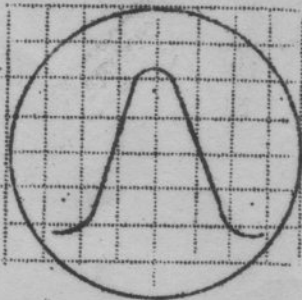
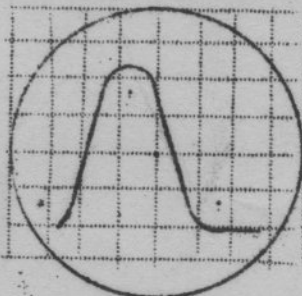
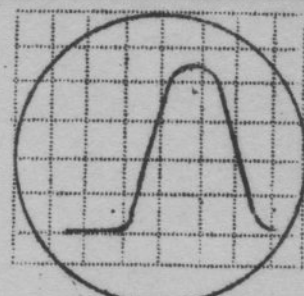
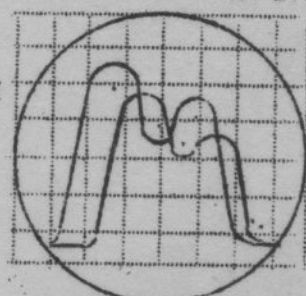

FIG. 4 PROPERLY ALIGNED AND TUNED
FIG. 5 PROPERLY ALIGNED TUNED BELOW PROPER FREQ.
FIG. 6 PROPERLY ALIGNED TUNED ABOVE PROPER FREQ.
FIG. 9 IMPROPER ALIGNMENT AND REGENERATION
14. ALIGNMENT OF I.F. STAGES: With the connections as previously outlined and the receiver properly tuned and aligned the response curve should appear on the oscillograph as illustrated in Fig 4. That is, with symmetrical sides consistent with maximum amplitude and the two traces, that is, the forward and reverse trace completely coinciding. If the receiver is tuned to a lower frequency both curves should shift together to the left side of the screen, (Fig. 5), and as the receiver is tuned to a higher frequency, both curves should shift together to the right hand side of the screen, (Fig. 6).
MISALIGNMENT: When connecting up the oscillograph to a receiver it may be found in some cases that two humps or peaks appear in the response curve similar to Fig. 9 rather than a single symmetrical curve as in Fig. 4. This would probably be caused by a misalignment of one of the intermediate frequency stages and the alignment of these stages should be checked and adjusted in an attempt to clear this condition up.
18. **SHORTED TURN:** If realignment will not correct this double peak as illustrated in Fig. 9 it is possible that there is a shorted turn in one of the intermediate frequency transformers. The effects of this shorted turn would be to decrease the inductance of the coil, thereby increasing its response frequency considerably above the proper value. In this case, of course, the remedy is to replace the defective transformer or correct the defective condition.
19. **REGENERATION:** In some cases where there is excess regeneration there will be a tendency for a double peak or hum similar to that illustrated in Fig. 9. This is usually traceable to defective or open by-pass condensers especially on the screen circuit. Double hump may also indicate over coupled circuits which may be satisfactory.